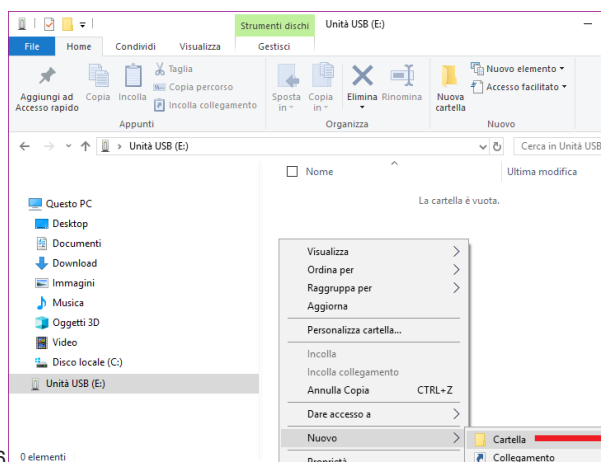

Fig. 106
- Create a new folder in the USB pendrive and name it **s19** (Fig. 106).